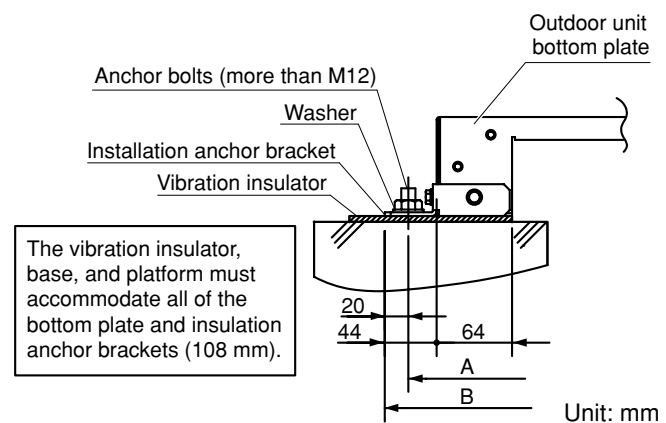

Fig. 4-2
- (1) Use anchor bolts (M12) or similar to securely anchor the unit in place. (Fig. 4-2)
- (2) Be sure the rubber vibration insulator and platform extend to the inside of the legs. In addition, the washers used to anchor the unit from the top must be larger than the installation anchor holes. (Fig. 4-2 and 4-3)